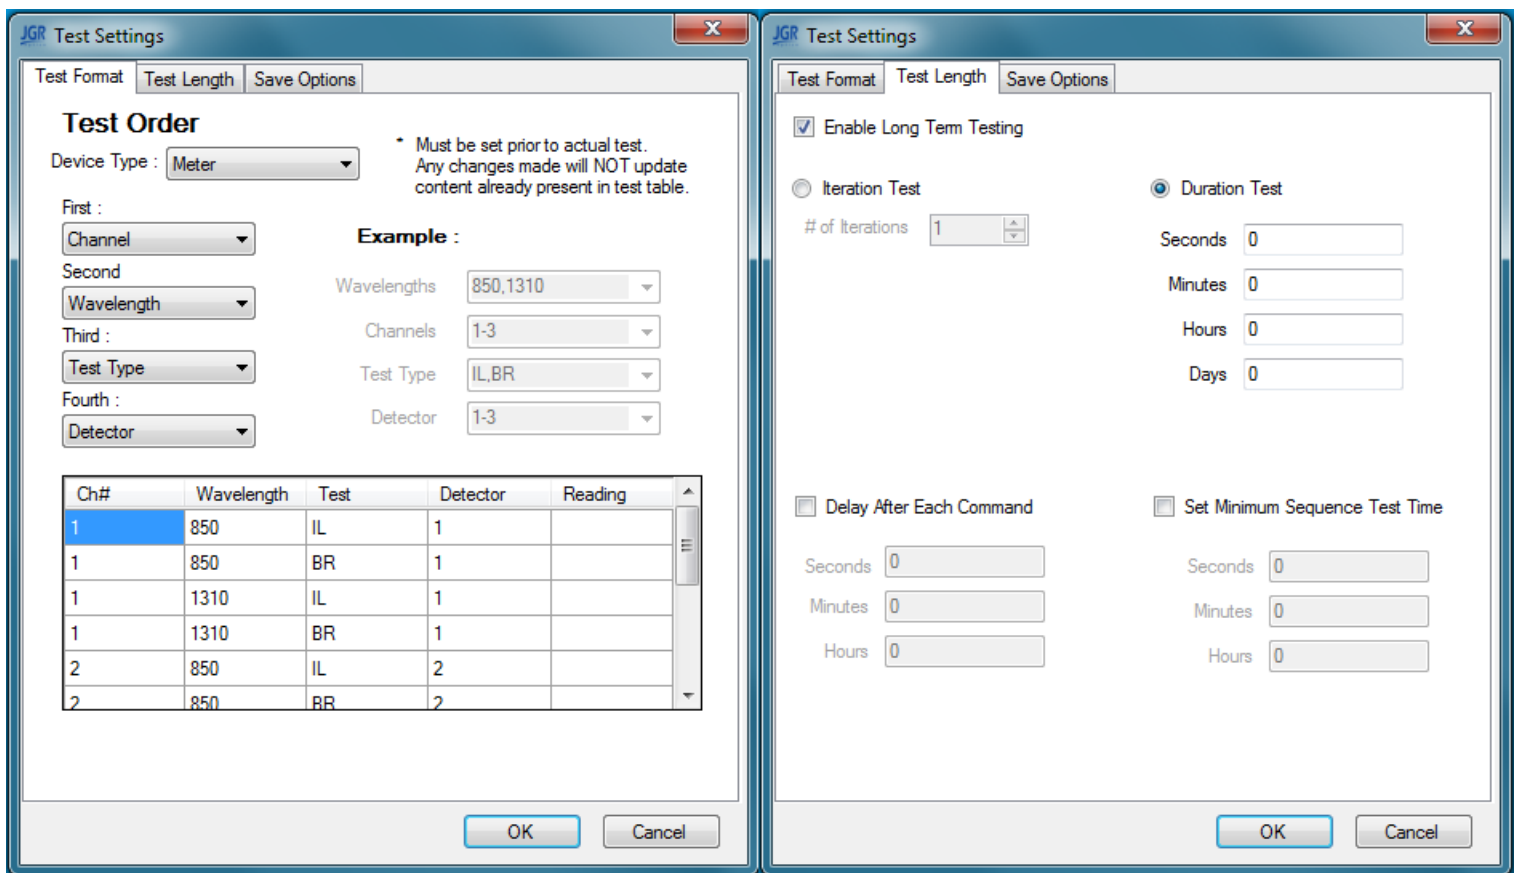

Figure 2.3: The Test Format and Test Length tabs for a meter type device.
- The first step is to access the Test Settings window (Fig. 2.3), which can be done through the Settings Menu or by pressing Ctrl+T.